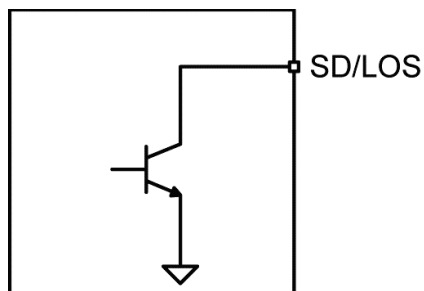

Figure 4. SD/LOS Output Structure
The SY88083L generates a user-selectable (SD/LOS_SEL pin) signal detect (SD) or loss-of-signal (LOS) open-collector TTL output, as shown in Figure 4. LOS is used to determine whether the input amplitude is too small to be considered as a valid input. LOS asserts high if the input amplitude falls below the threshold set by